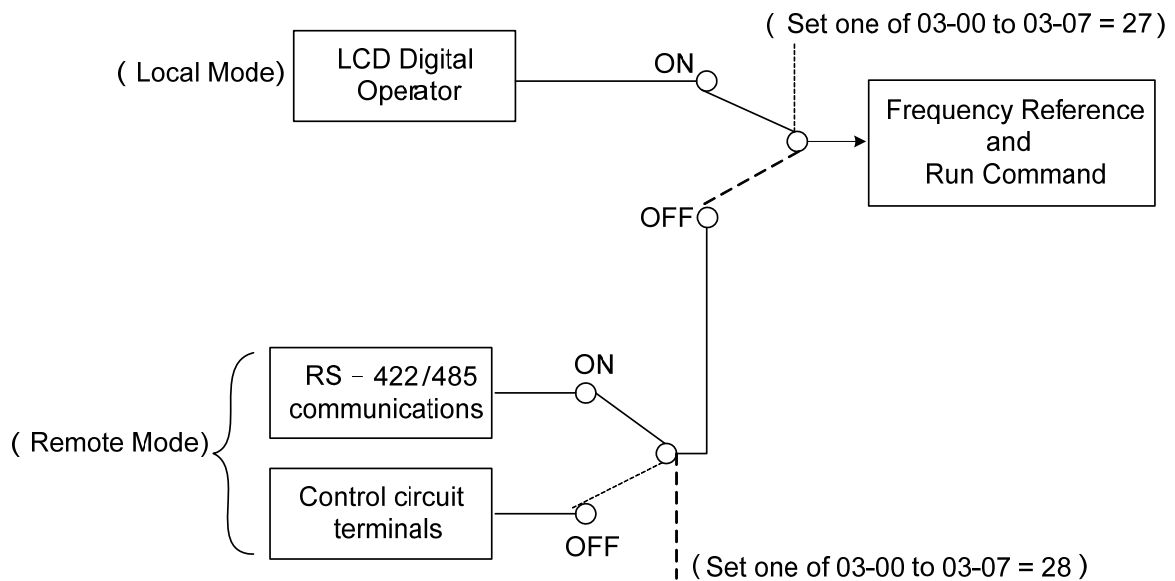

Figure 4.3.23 Operation selection of remote mode
- (26). Remote mode selection (setting = 28).
- . By setting control terminals (S1 ~ S8) or communication RS-485, you can set one parameter from 03-02 to 03-07 to 28 (operation selection of remote mode). Refer to Figure 4.3.23.